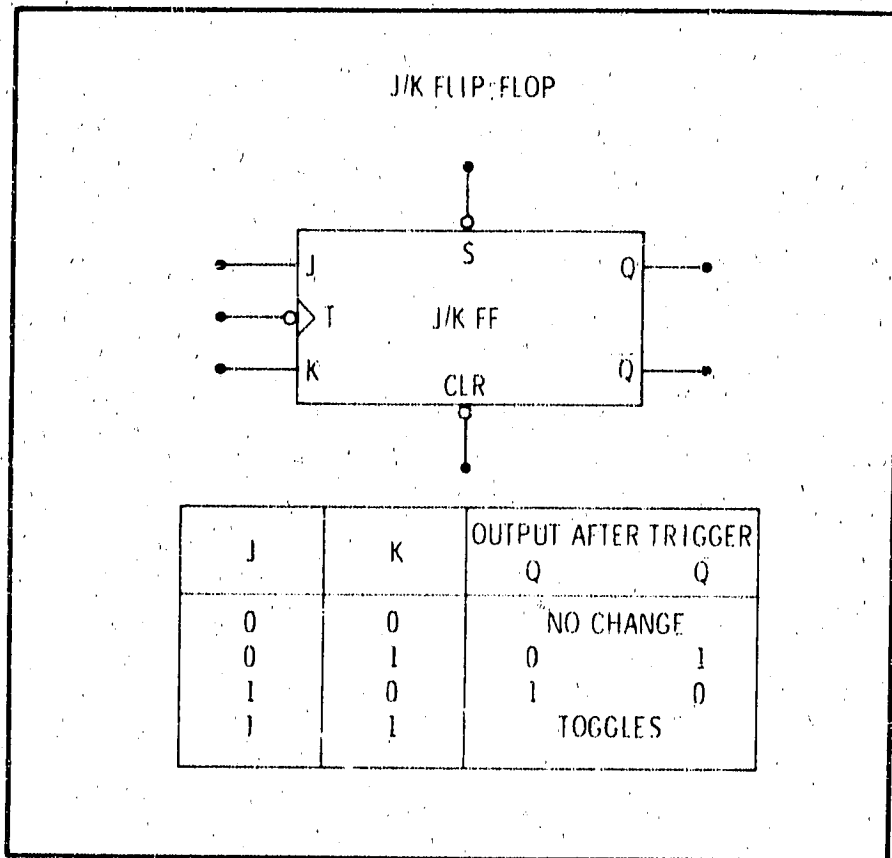

Figure 8-8. J/K Flip-Flop
8-49. J/K Flip-Flop. Figure 8-8 shows a typical J/K flip-flop. The trigger (T) input is activated by a low-going signal as indicated by the circle on the symbol. Flip-flop response is determined by the values of the J and K inputs at the instant that a low-going signal is applied to the trigger input: